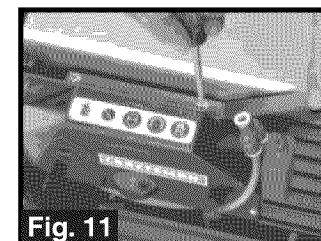

Fig. 11
9. Attach blade/cutting assembly handle with screws provided. Put one of each washer between screw and blade and tighten screws (Fig. 11).